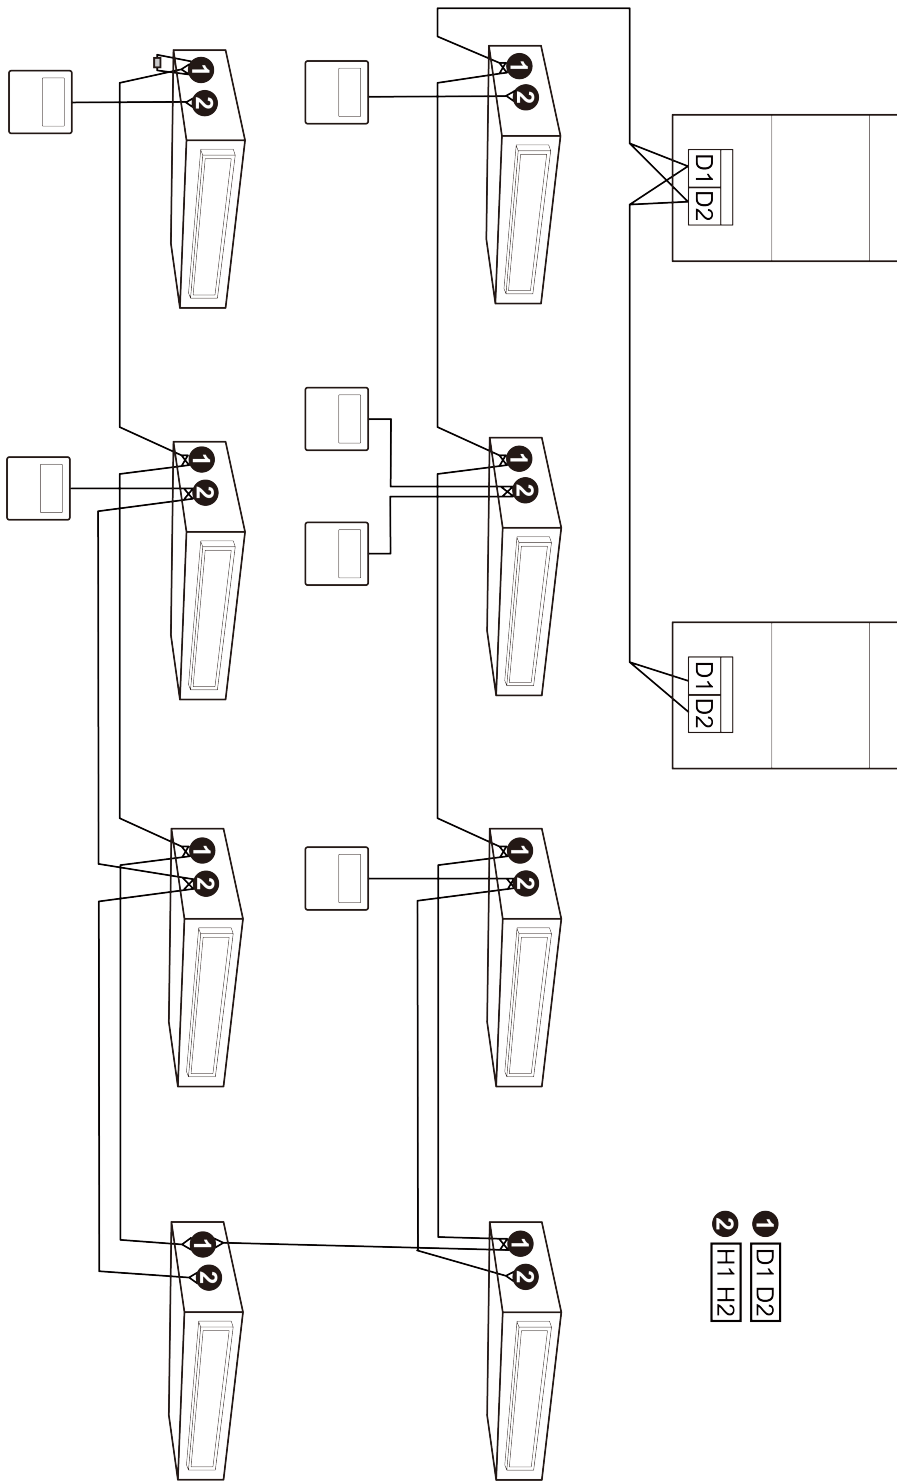

Fig 5.5.1
- (1) Communication wire of indoor unit and outdoor unit (or indoor unit) is connected to D1, D2.
- (2) Wired controller is connected to H1, H2.
- (3) One indoor unit can connect two wired controllers that must be set as master one and slave one.
- (4) One wired controller can control 16 indoor units in maximum at the same time. (as shown in Fig 5.5.1).
- ① When the wired controller is controlling multiple indoor units at the same time, the indoor units must be of the same model. Fresh air indoor unit cannot share the same wired controller with other types of VRF indoor unit.
- ② When two wired controllers are controlling the indoor units, you need to set an address for each wired controller. Address No.1 refers to master wired controller while address No.2 refers to sub-master wired controller. They should not share the same address. For specific setting methods, please refer to installation manual of wired controller.
- ③ If connecting the fresh air indoor unit with wired controller for operation, fresh air indoor unit code “FAP” will be displayed. For specific operation methods, please refer to instruction manual of wired controller.